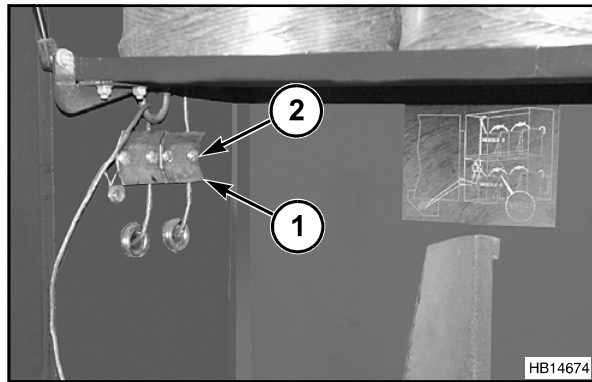

FIG. 41
FIG. 41: The lower twines pass between tension clips (1) when leaving the twine box. Use the adjusting nut on the mounting bolt (2) to adjust the spring for a very slight tension to prevent free fall of the twine. Too much tension can cause excessive wear and cause knotter malfunction.